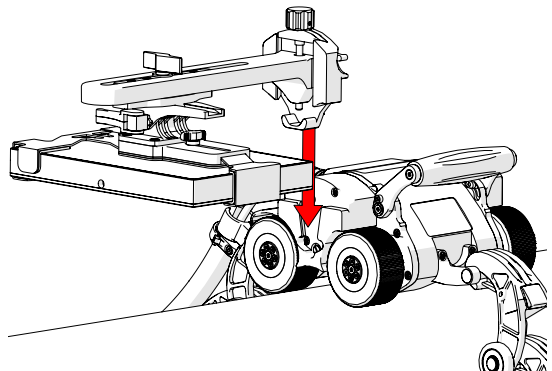

Fig. 78 - Mount detector bracket to the crawler
17. Mount the detector bracket (Fig. 78) to the crawler (see "Mounting Detector Bracket to Crawler" on page 28).